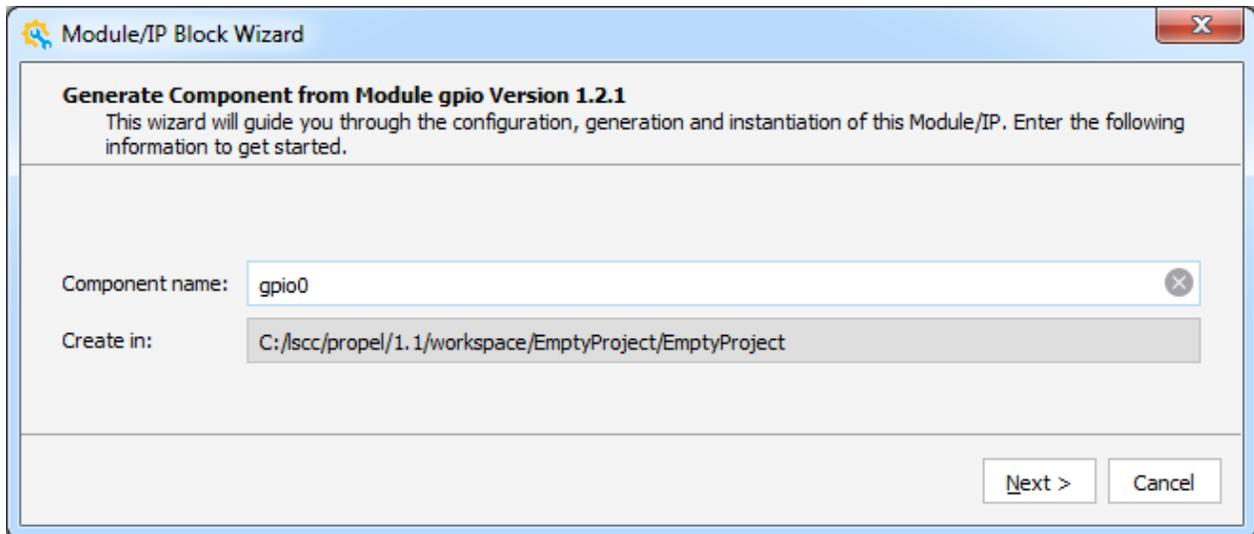

Figure 2.15. Module/IP Block Wizard – Generate Component from Module gpio Version 1.2.1
- From the **IP on Local** tab, select a desired IP such as GPIO. Double-click the IP module or drag and drop the IP module to the **Schematic** view. A Module/IP Block wizard pops up (Figure 2.15).